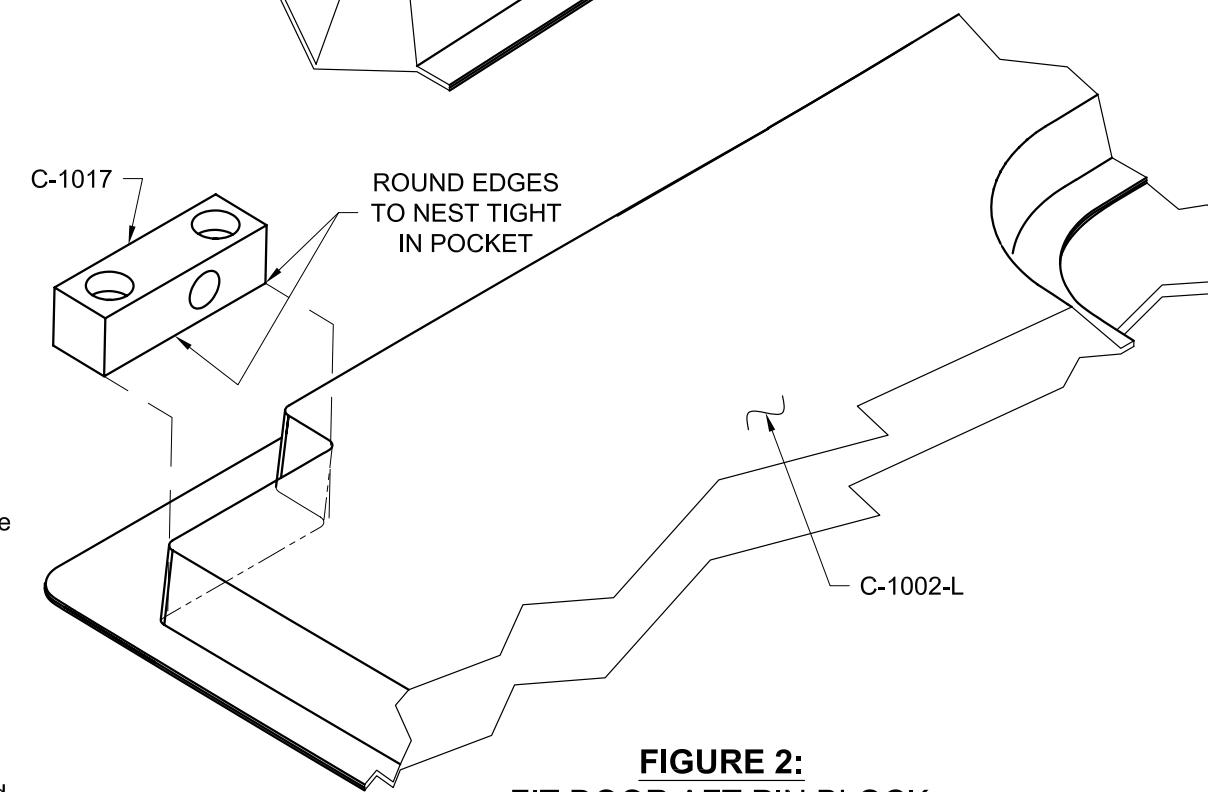

FIGURE 2:
Step 2: Position the C-1017 Door Aft Pin Block in the pocket in the C-1002-L Door as shown in Figures 2 and 3. Round the upper and fwd outboard edges as required for the door aft pin block to nest tightly against the door. The aft pin block must not protrude beyond the aft "wall" of the door.